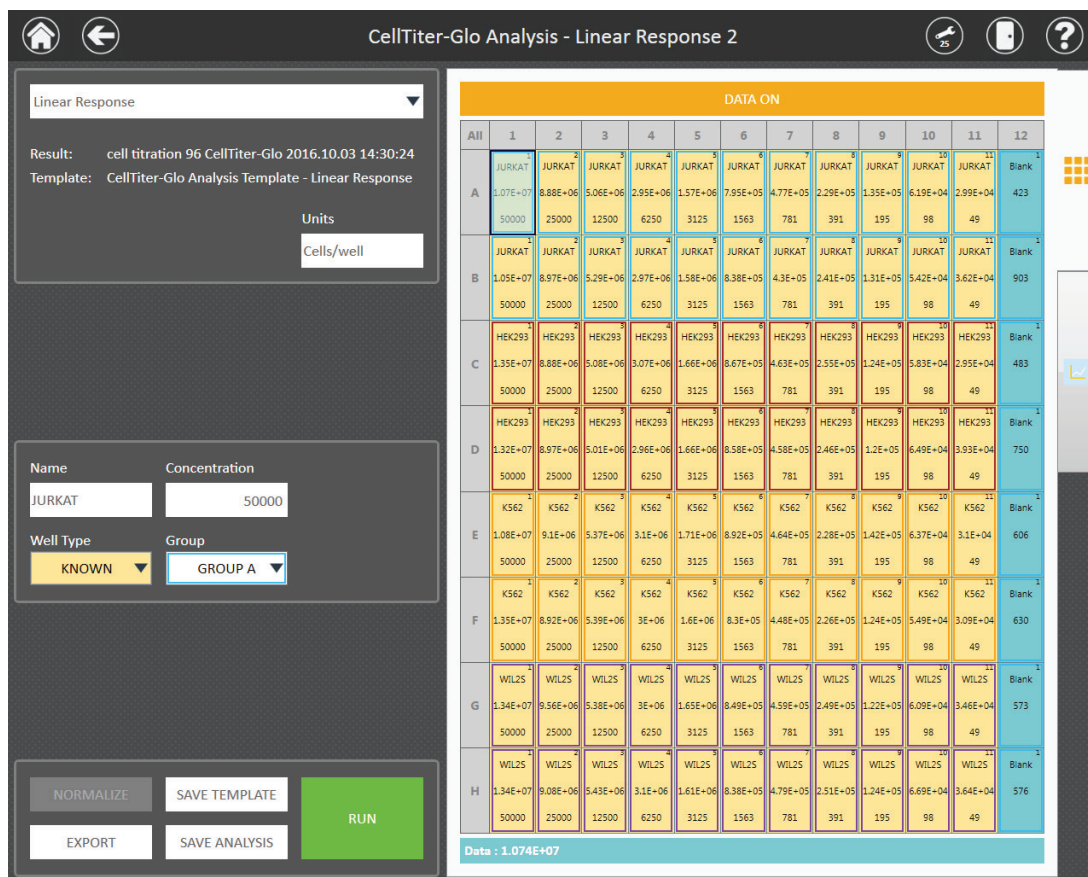

Figure 66. Once a template has been applied to the data, touch the **Run** button to analyze the results.
1. Once a template has been assigned to the result file, touch the green **Run** button near the bottom of the left side of the screen to perform the analysis of samples (Figure 66). When the analysis is completed, an “Analysis has successfully completed” message will appear on the screen. Select **OK** to view the results.
Data from the plate read will be populated in the center of the wells on the plate map. To view results of a single-read analysis, toggle the data displayed in the wells of the plate using the **Data On/Off** button at the top of the screen (Figure 66).